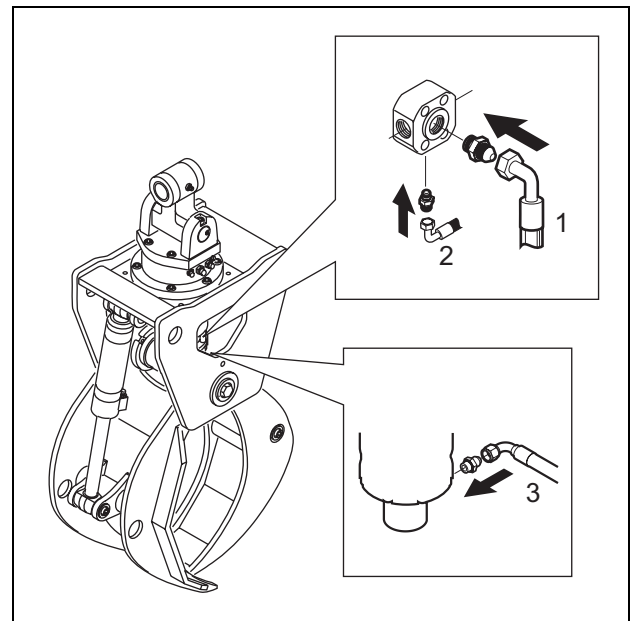

Fig. 15 Connect the hydraulic hoses to the rotator
2. Connect the hydraulic hoses for the grapple saw to the rotator. *See Fig. 15.*